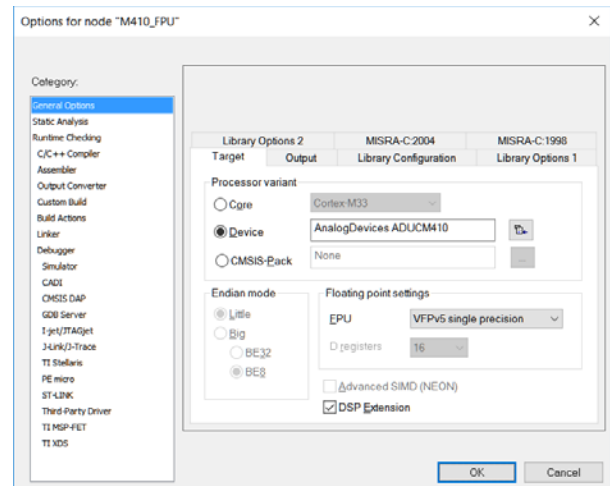

Figure 24. IAR IDE General Options
- From the **Category** section, click **General Options**. Then click the **Target** tab, and ensure the **FPU** box in the **Floating point settings** section is set to **FPv5 single precision**, as shown in Figure 24.